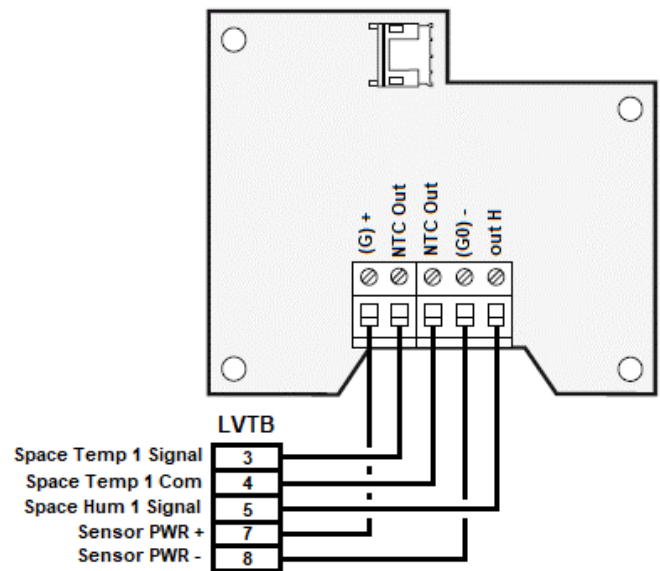

Figure 1. Sensor Terminal Connections
4. Must use either a 3 and 2-wire conductor cable or a 5-wire conductor cable. Wire as indicated below in figure 1.